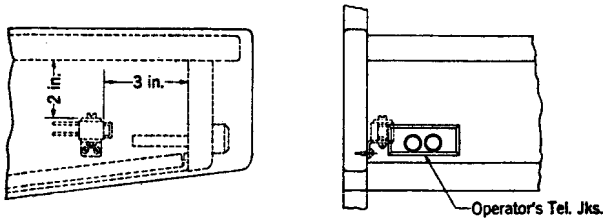

Fig. 1 - Varistor Mounted on the End Panel at the Left-Hand Side of Keyshelf
3.02 Where the wiring to the telephone jacks enters along the left-hand side of the keyshelf, mount the varistor on the end panel of the keyshelf on the left-hand side as indicated by Fig. 1.